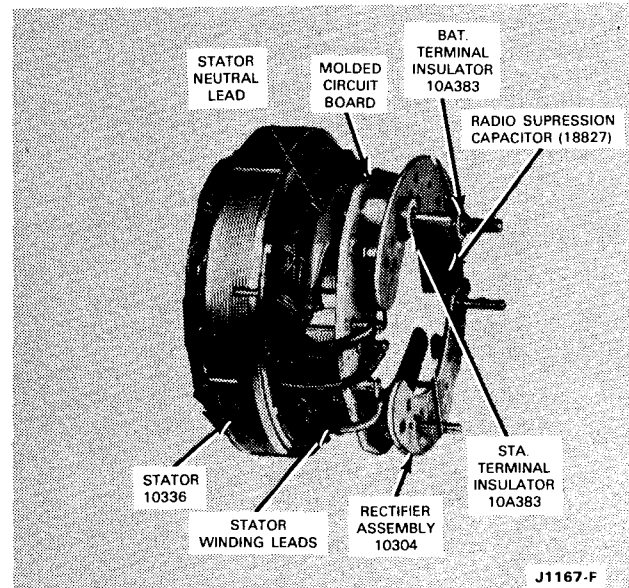
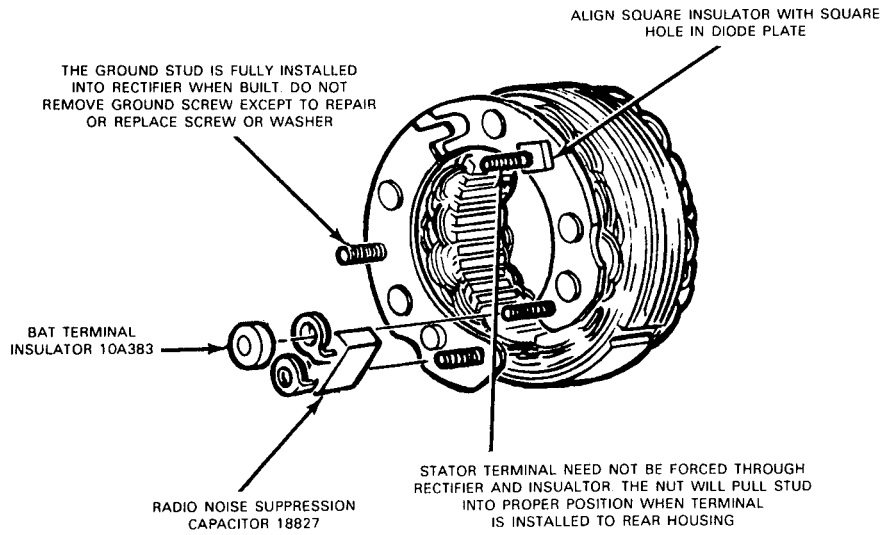

FIG. 21 Stator Lead Connections
FIG. 22 Terminal Insulators — Fiber Glass Circuit Board
9. Wrap the three stator winding leads around the rectifier terminals and solder them. Use a 100-watt soldering iron and rosin-core solder. Position the stator neutral lead eilet on the stator terminal screw and install the screw in the rectifier assembly (Fig. 21).
11. Position the radio noise suppression capacitor on the rectifier terminals. On the circuit board with exposed diodes, install the STA and BAT terminal insulators (Fig. 21). On the single circuit board, position the square hole in the rectifier assembly (Fig. 22) on the BAT terminal.